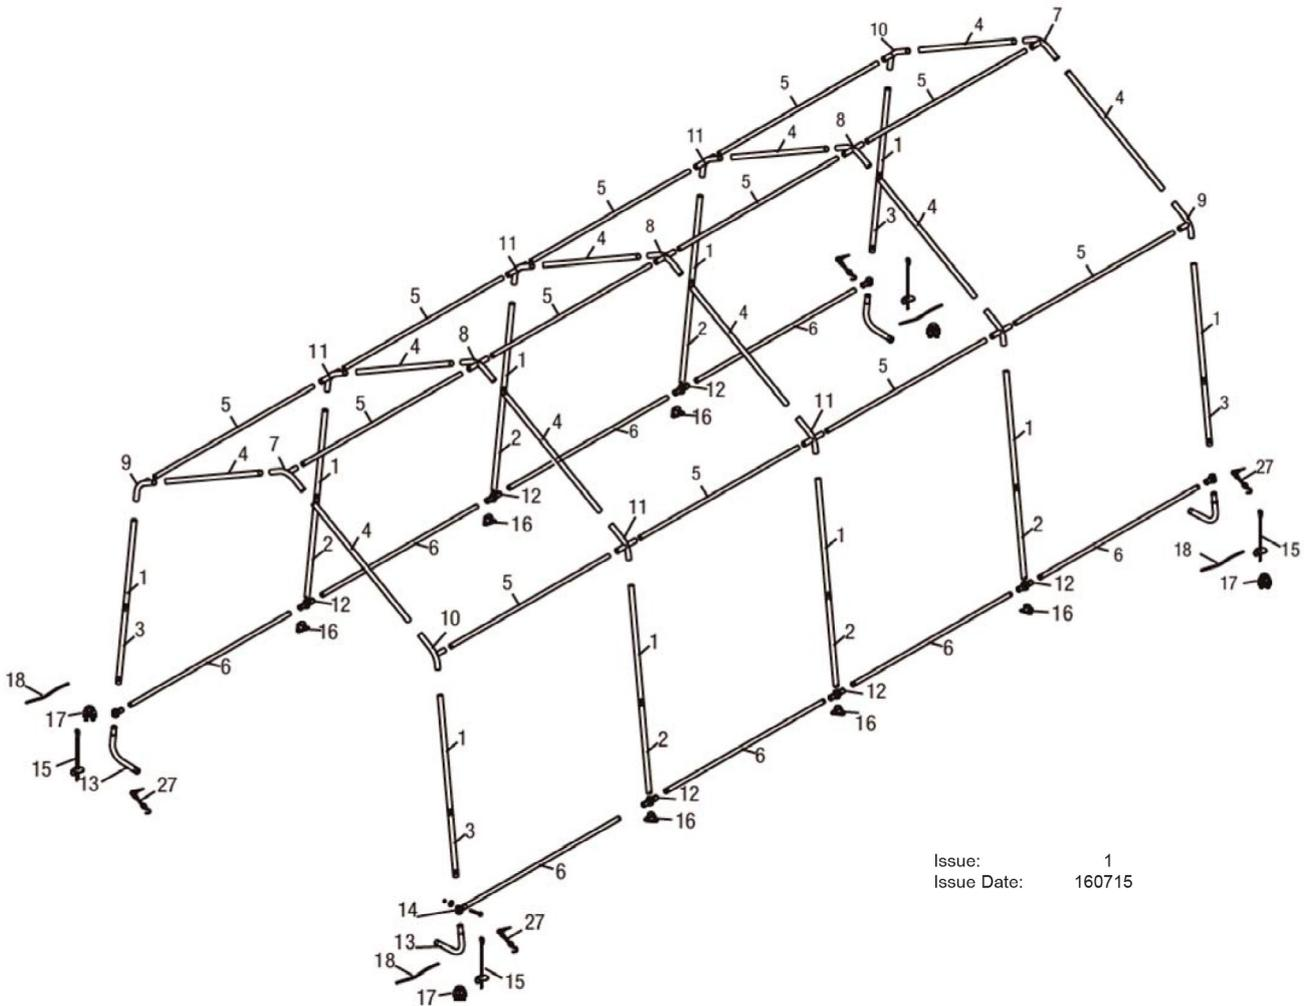

fig.15
- 4.9.1. When disassembling the shelter, depress the spring loaded bar and open the ratchet handle completely to allow the webbed belt to disengage the ratchet, see fig.15.